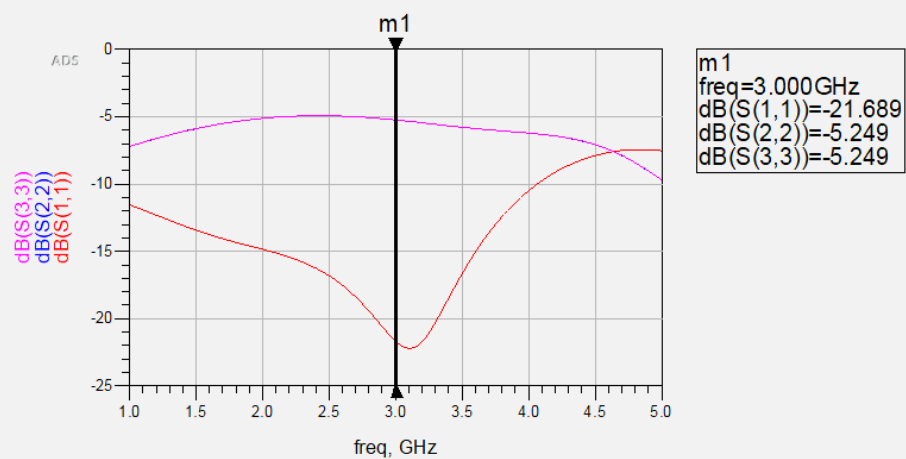

Figure 7. $S(1,1)$, $S(2,2)$, and $S(3,3)$ for the power divider
7. Run the simulation. The results are shown in Figures 7, 8, and 9.